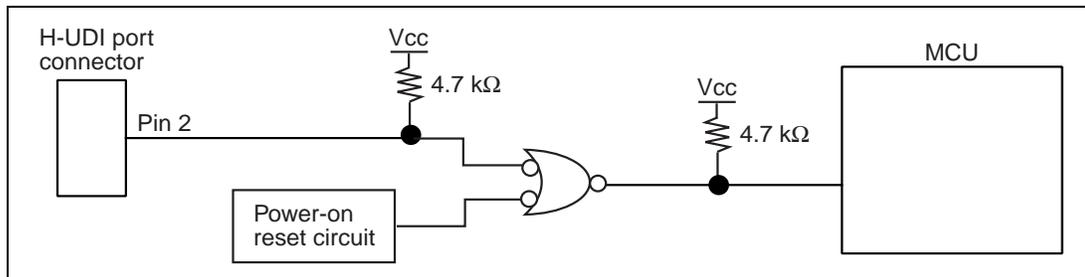

Figure 4.6 Connection of Pin ETRST#
- Pin ETRST# must be connected as shown in figure 4.6.